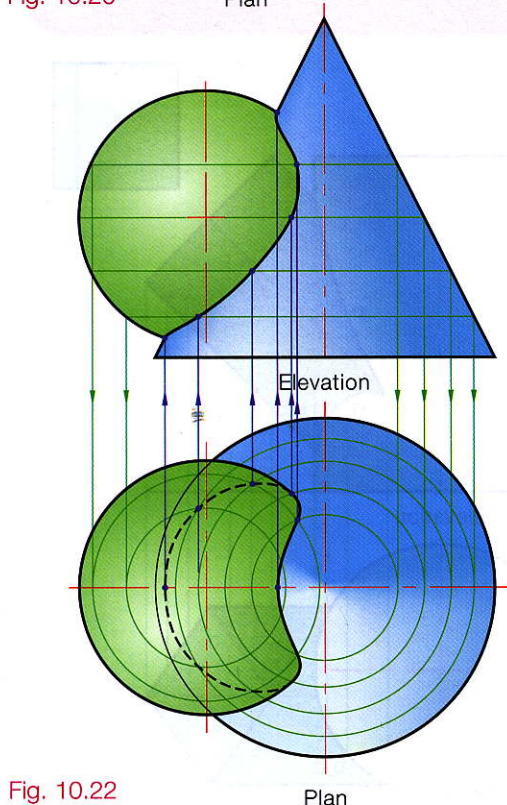

Fig. 10.22
- (1) Draw the plan and elevation as given.
- (2) It is advisable to space the horizontal sections at equal intervals each side of the sphere centre line.
- (3) The intersections of the cone sections in plan with their corresponding sphere sections gives the points for the curve on the plan.
- (4) Project these points of intersection to their corresponding horizontal sections to obtain the curve points on the front elevation, Fig. 10.22.